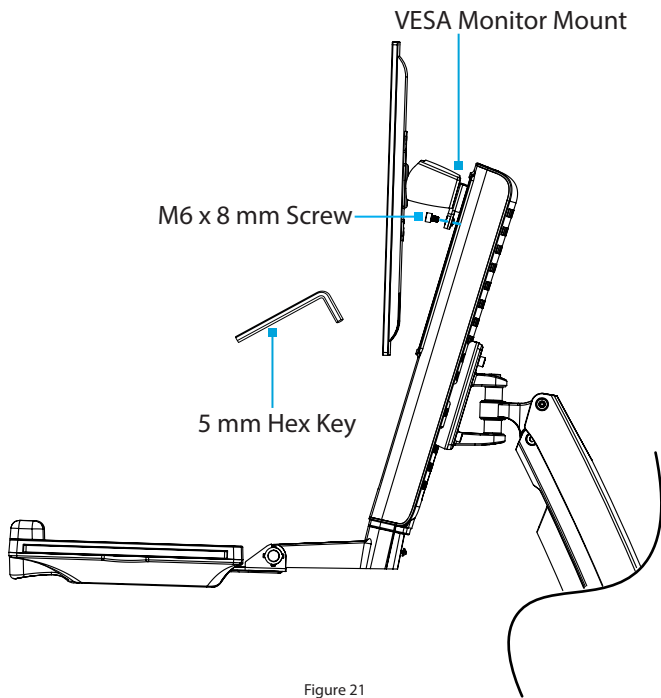

Figure 21
2. Insert the **M6 x 8 mm Screw** through the **Projection**, located on back of the **VESA Monitor Mount** and into the **Plate**, located on the **Column** and tighten, using the **5 mm Hex Key**. (Figure 21)